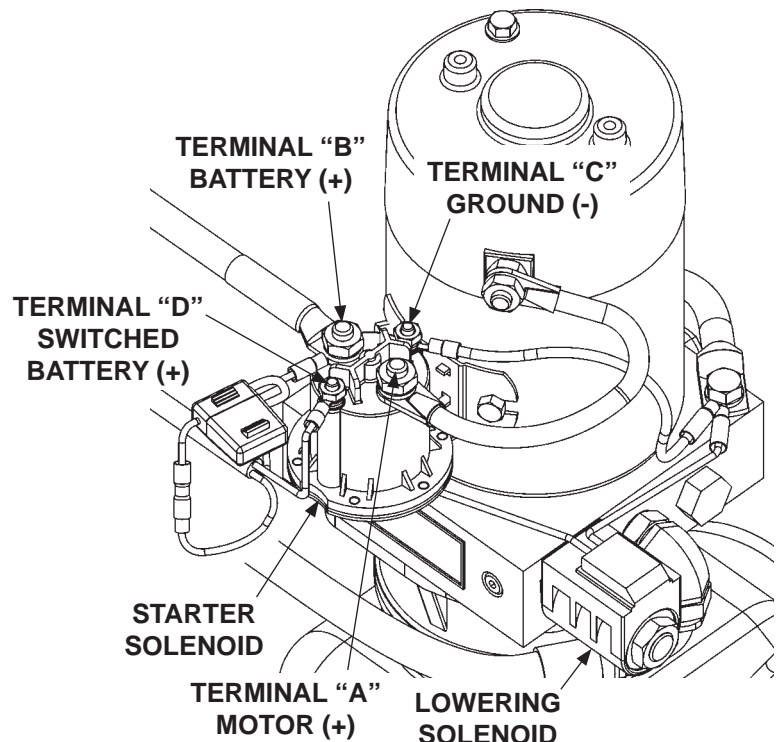

FIG. 33-1
1. Use voltmeter to verify power is being supplied to solenoid terminal “B” (FIG. 33-1). Recharge the battery if there is less than 12.6 volts.
3. Touch a jumper wire to terminals “B” & “D” (FIG. 33-1). If motor runs, check switch, switch connections, and white wire. Check and correct wiring connections or replace the switch.
4. Touch heavy jumper cables to terminals “A” & “B” (FIG. 33-1).